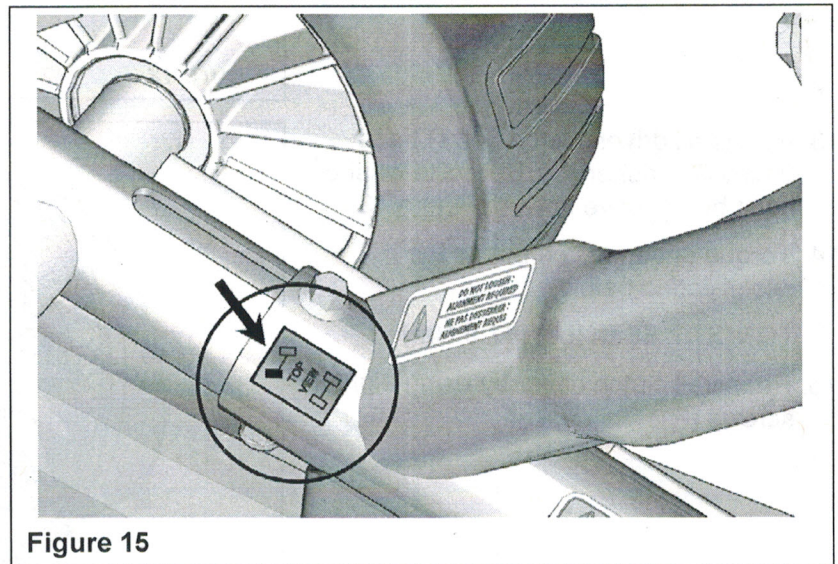

Figure 15
2. Identify and position each unit of the track system near the position indicated on the sticker affixed on the frame. Figure 15.